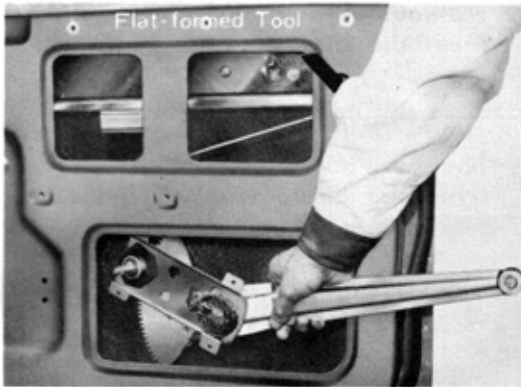

Fig.1-26 Window Regulator Removal V0398
5. Support the glass in the position illustrated in the Fig.1-26 on the next page with a proper tool to prevent it from lowering.